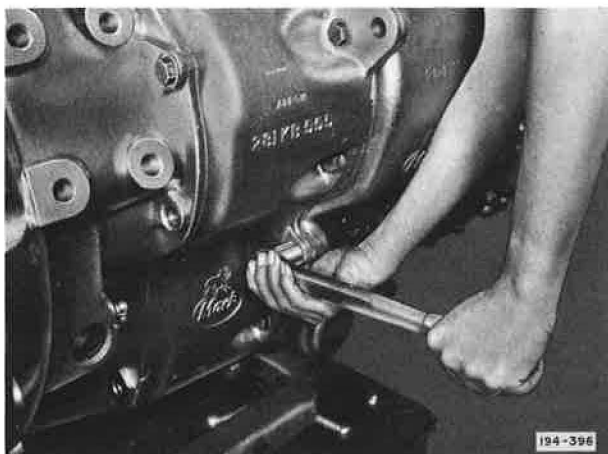

Figure 5-211. Tightening Main Case to Compound Case Capscrews
2. Install main case to compound case cap-screws and washers, then tighten to recommended torque. See Figure 5-211.